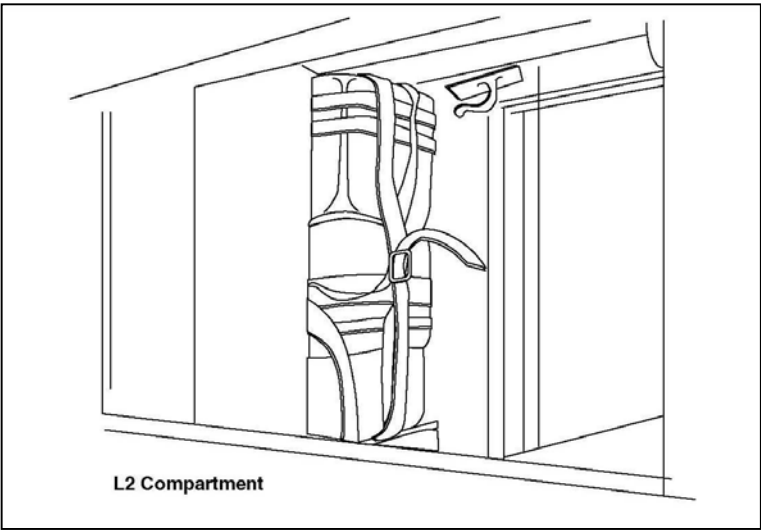

Figure 3-2-4: Power Conditioner and Battery Pack
- d. **TI Sight Battery Power Conditioner and Spare Battery Pack.** The TI sight battery power conditioner powers the TI sight. The vehicle power conditioner, and spare battery pack (consisting of two lithium batteries), are stowed and strapped together in a bracket located on the rear wall of the R2 compartment (see Figure 3-2-4); and